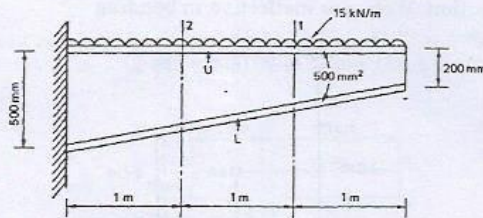

Fig. 16 (a)
16. (a) A wing spar has the dimensions shown in Fig. 16(a) and carries a UDL of 15 kN/m throughout its length. Each flange has a cross-sectional area of 500mm2 with the top flange being horizontal. If the flanges are assumed to resist all direct loads while the spar web is effective only in shear, determine the flange load and the shear flow in the web at section 1-1 which is 1 m from the free end.